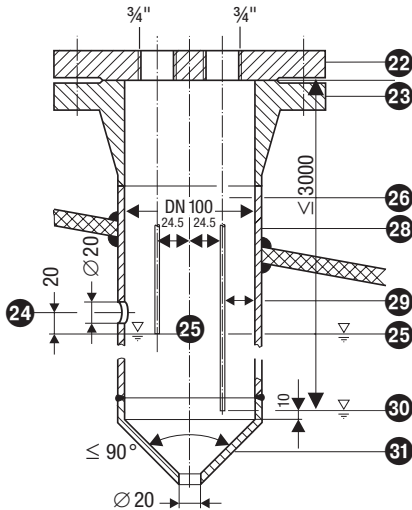

Fig. 16 Protection tube (provided on site) if electrode is used as internal water level-limiter combined with water level control or high water level alarm
- **One level electrode NRG 1...-51 can be installed together with one GESTRA water level limiting electrode in a single protection tube or external level pot (inside diameter 100 mm). Fig. 16.**